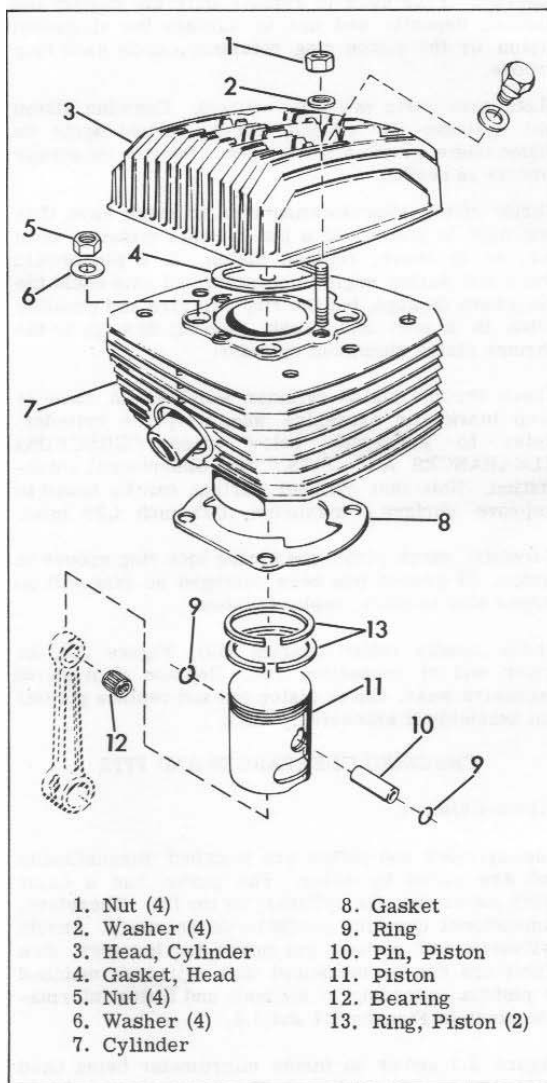
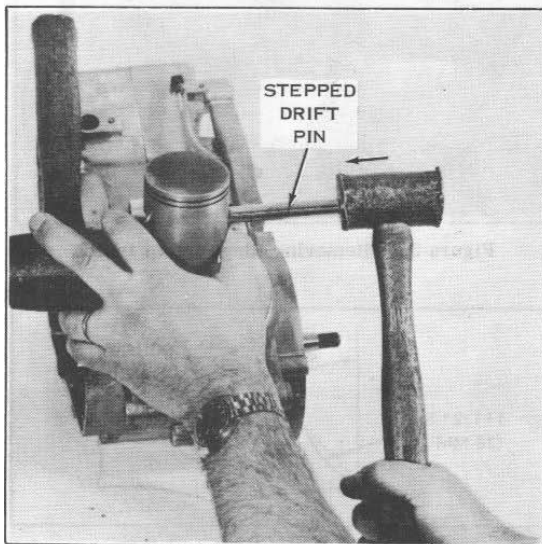

Figure 3.2. Exploded View of Cylinder and Piston
Figure 3.6. Removing Pin From Piston
Refer to Figure 3.2 while performing following steps.
Disassemble piston (11), Figure 3.2, from connecting rod as follows. Remove either one of two pin lock rings (9) with lock ring removing tool as shown in Figure 3.5. Discard lock ring that was removed. Using a rawhide mallet and a stepped drift pin, tap pin (10) out of piston as shown in Figure 3.6.
Check needle roller bearing (12), Figure 3.2, in upper end of connecting rod. Replace if it shows excessive wear. Check piston pin and replace piston/pin assembly if excessively worn.